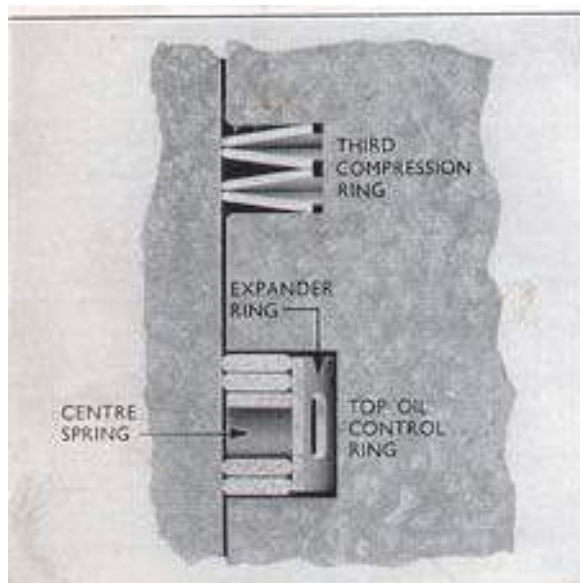

Fig. 24
The oil control ring above the piston pin is a laminated type, consisting of four segments with a spring ring between each pair, to hold them firmly against the groove sides, and an expander between the segments and the back of the groove (see Fig. 24). The oil control ring below the piston pin is a cast iron slotted type.
3. The laminated rings for the third compression ring are concave or convex depending on which way up they are laid. When assembled to the piston the rings should be as shown on Fig. 24, i.e. the first lamination is fitted with its concave face upwards; second lamination, convex face upwards; third lamination, concave face upwards; and the top lamination, convex face upwards.